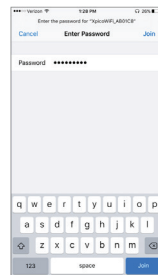

Figure 9: Network Security Password
4. After clicking Connect, enter “xpicowifi” in lower case as the network security password. Click on Join button to complete the connection. See Figure 9.